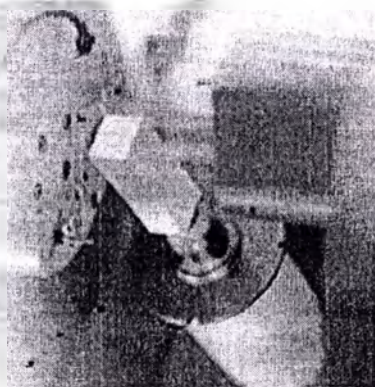

Fig. 11
- 3) Fix the billet in the holder of milling machine (Fig. 11)